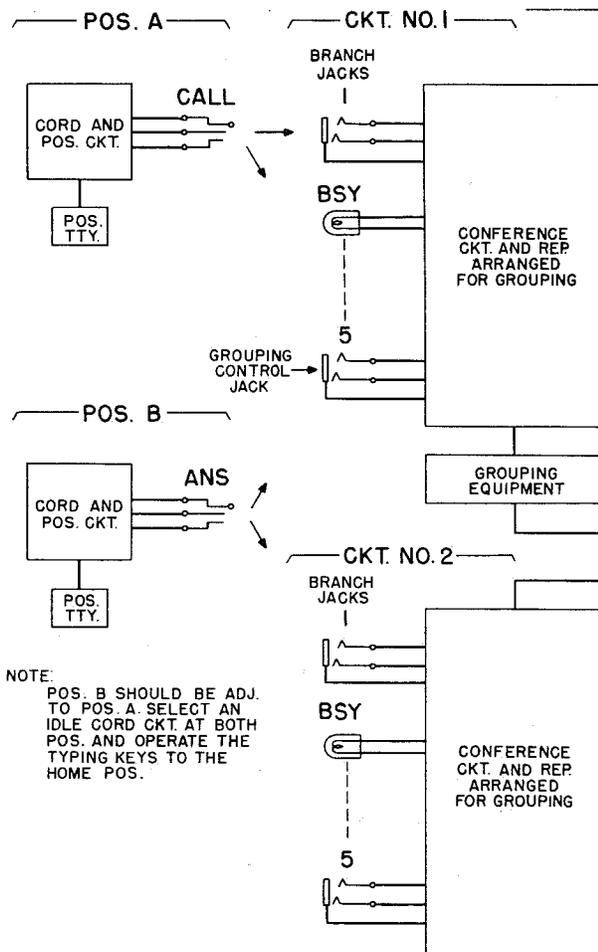

Fig. 2 - Operation Tests - Grouping Circuits
(B) Operation Tests - Conference Circuits Arranged for Grouping. (Fig. 2)